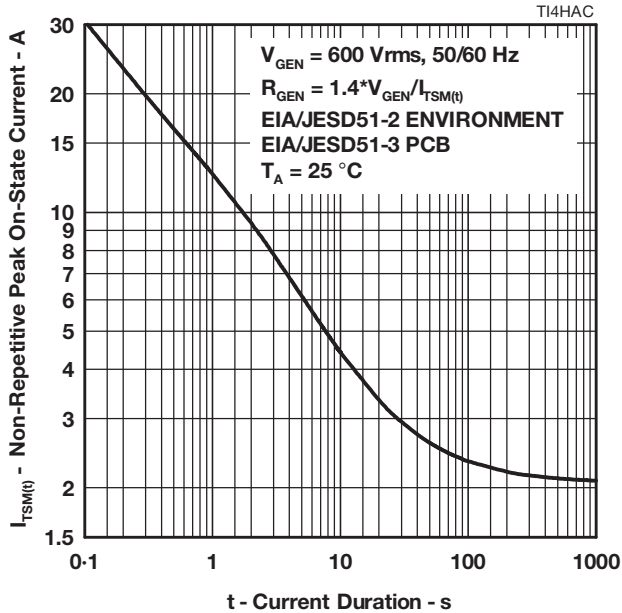

Figure 10.
4. EIA/JESD51-2 environment and EIA/JESD51-3 PCB with standard footprint dimensions connected with 5 A rated printed wiring track widths. See Figure 10 for the current ratings at other durations. Derate current values at $-0.61\%/\text{C}$ for ambient temperatures above 25°C .